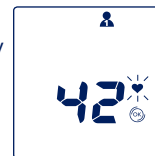

Figure 3
- The measurement is carried out during inflation. The ♥ symbol flashes in the display (Figure 3). In addition, beeps denote the pulse.